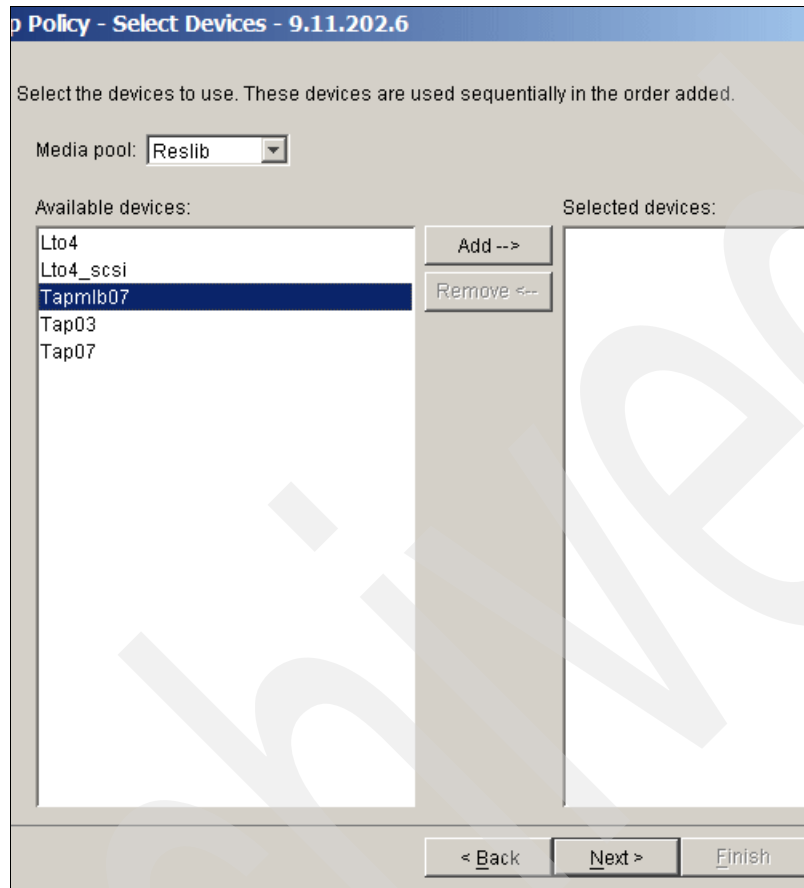

Figure 6-24 New Backup policy wizard - which media and device to use
14. In the next window, select the media pool from which the media are used for this backup policy, then select the device to use in the backup policy and click **Add**. In our example we use media pool Reslib and tape library device Tapmlb07, as shown in Figure 6-24.